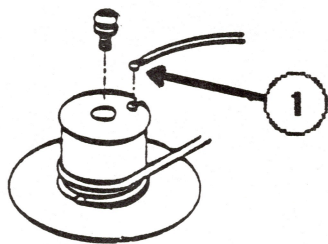

FIGURE 5
11. Remove the top end of the carrier wire (see Figure 5, #1).